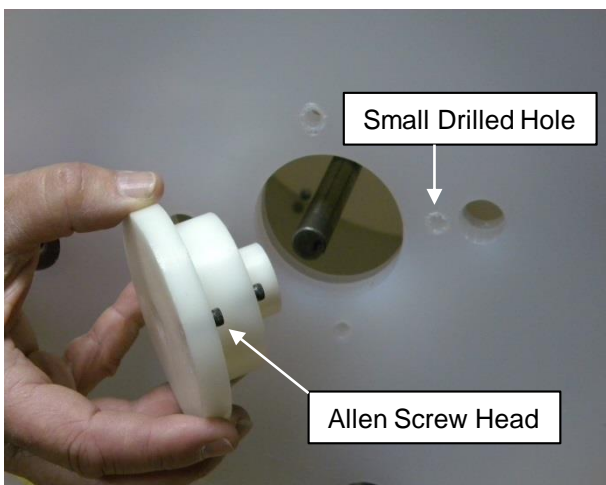

Figure 5
- Two Reel Payoff Cams (Figure 5)
6.11 Install two Reel Payoff Cams into fiber reel bushings and insert Steel Shaft through center of Payoff Cams. **See Fig. 5.**